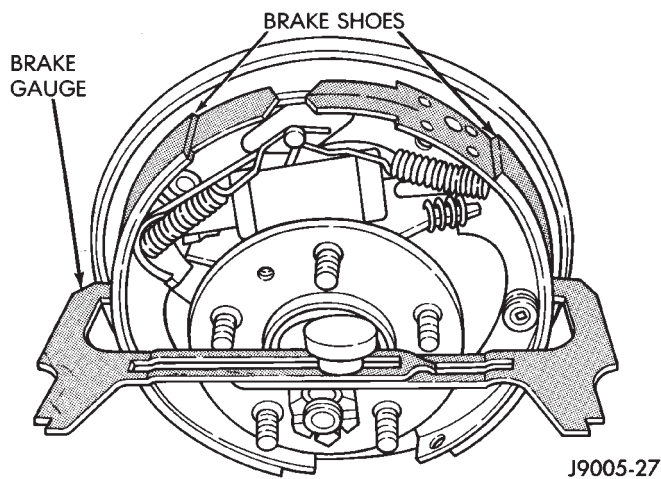

Fig. 61 Adjusting Gauge On Brake Shoes
- (5) Reverse gauge and install it on brake shoes. Position gauge legs at shoe centers as shown (Fig. 61). If gauge does not fit (too loose/too tight), adjust shoes.
- (6) Pull shoe adjuster lever away from adjuster screw star wheel.